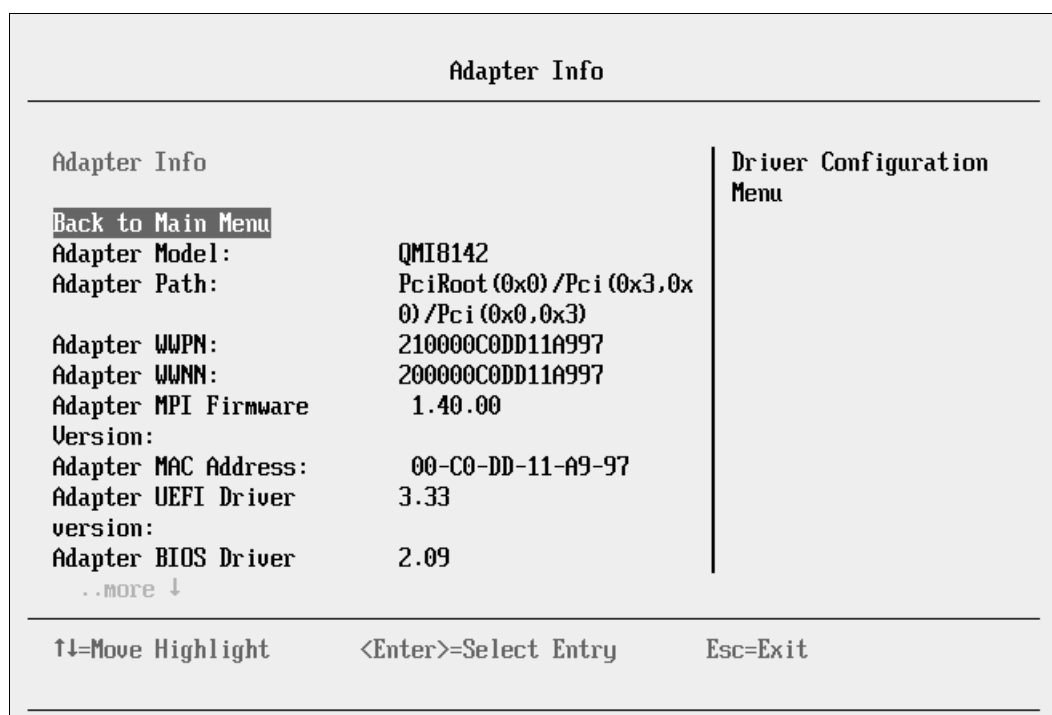

Figure 9-156 Adapter Info panel
11. In the Adapter Info panel (Figure 9-156), note the WWPN and MAC address and view the revision levels of the adapter. Make sure that you are using the latest code levels that are certified by your SAN vendor. Then press Esc.